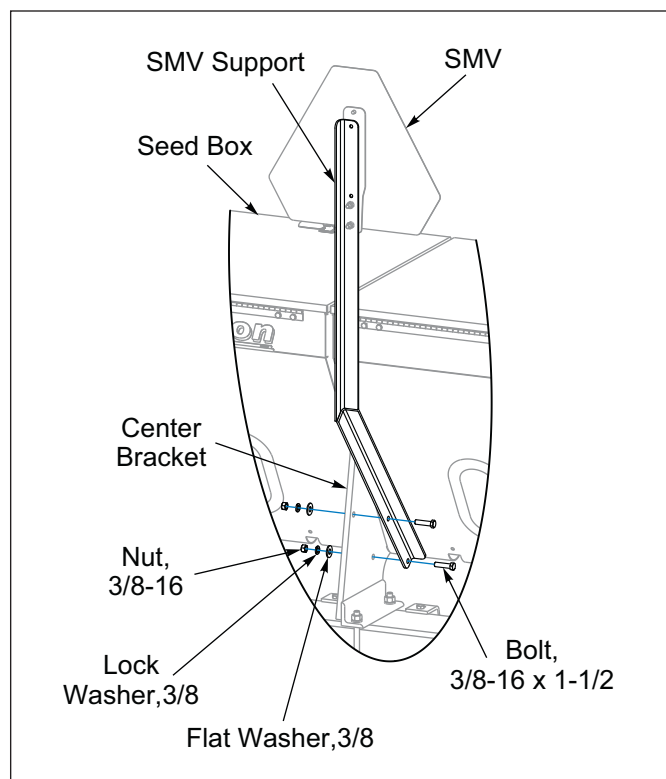

Figure 2-5: SMV Support
5. Install SMV Mount to Seed Box Center Bracket with 1/2-13 x 1-1/2 Bolts and Locknuts. **See Figure 2-5.**